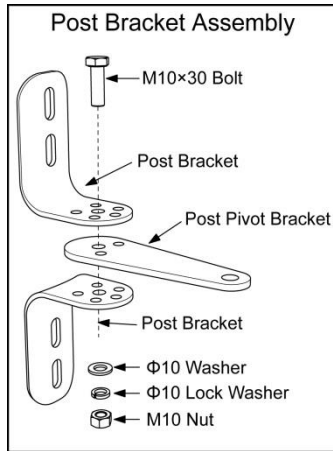

Figure 6
1. Insert the M10 x 30 bolt through the center hole of the post bracket and post pivot bracket as shown in Figure 6. Place a Φ 10 washer, Φ 10 spring washer and M10 nut on the bottom of the bolt and hand tighten so that the pivot plate can swivel.